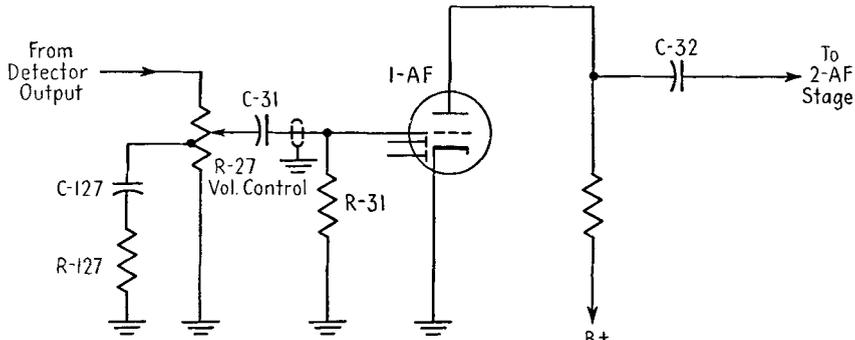

FIG. 11-22. Bass compensation at the first AF stage.
**Bass compensation circuit.** It is characteristic of the human ear to be less sensitive to low audio frequencies than to high ones at reduced volume levels. To compensate for this deficiency, the circuit of Fig. 11-22 is found in many receivers.